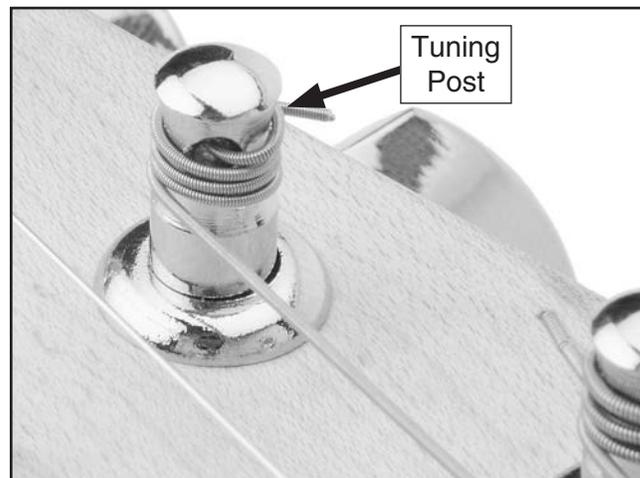

Figure 27. String wrapped around tuning post.
6. Rotate the tuners until the string just begins to hold the winding tension (see **Figure 27**).